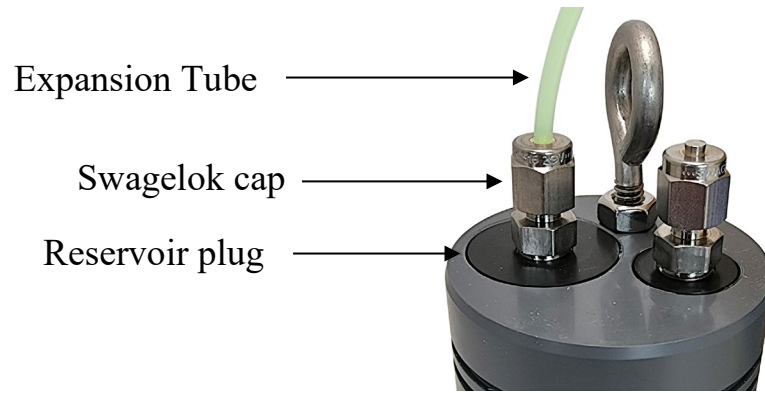

Figure 20 – Remove the Expansion Tube
- 1) Remove the Swagelok cap and expansion tube from the Swagelok fitting on the reservoir plug (Figure 20).